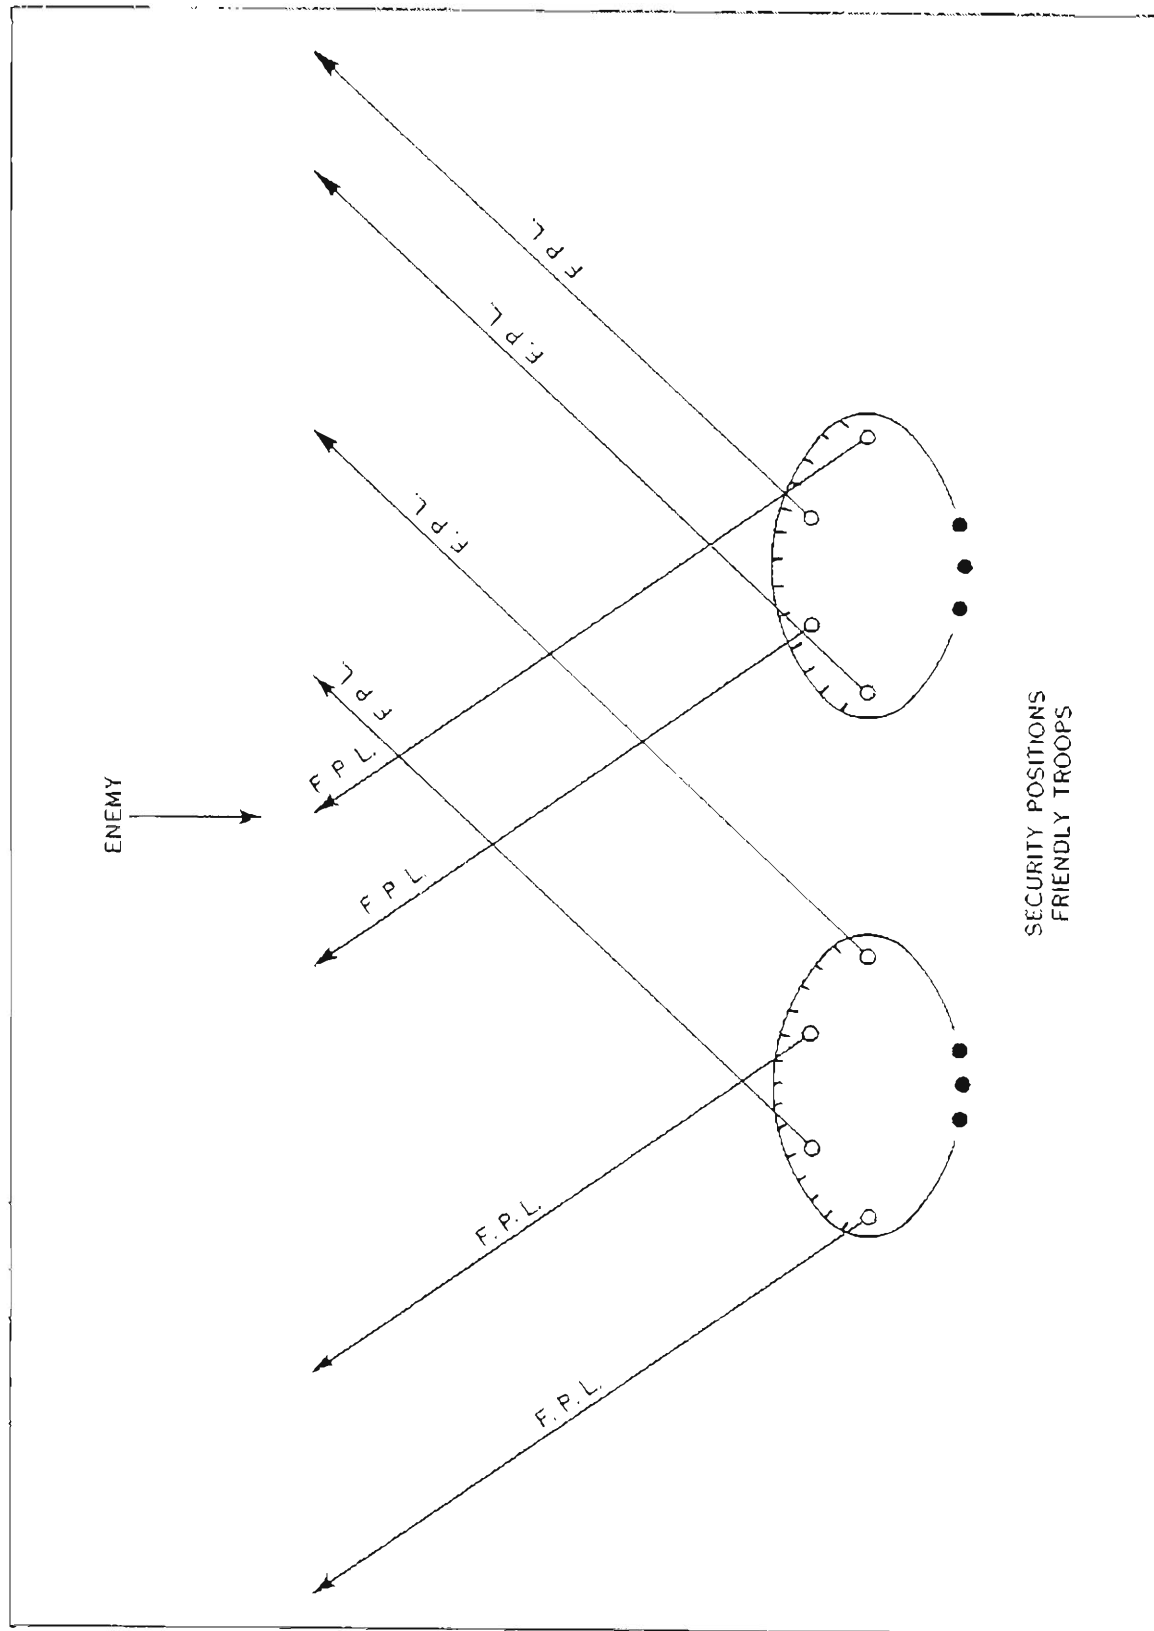

Figure 17
(1) Setting up your FPL's so that they protect not only your front, but also that of an adjacent unit. This can be done by causing your flank guns to cross fire with those on the adjacent flank.
(2) Co-ordinate interior guns so that their FPL's cross. This not only will permit laying down of crossed bands of grazing fire, but also will insure covering the front in case one gun is knocked out (fig. 17).